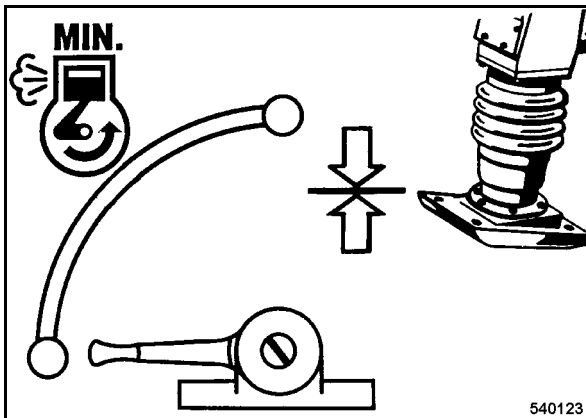

Fig. 56
- To read the idle speed set the throttle lever to position MIN (Fig. 56).